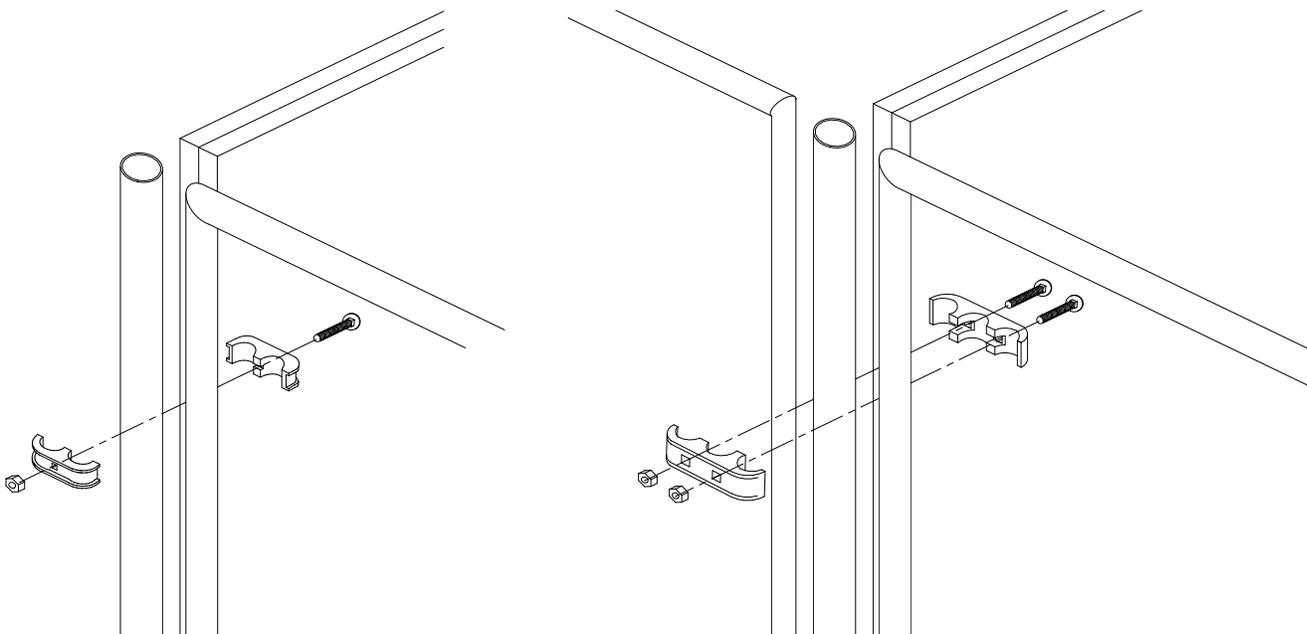
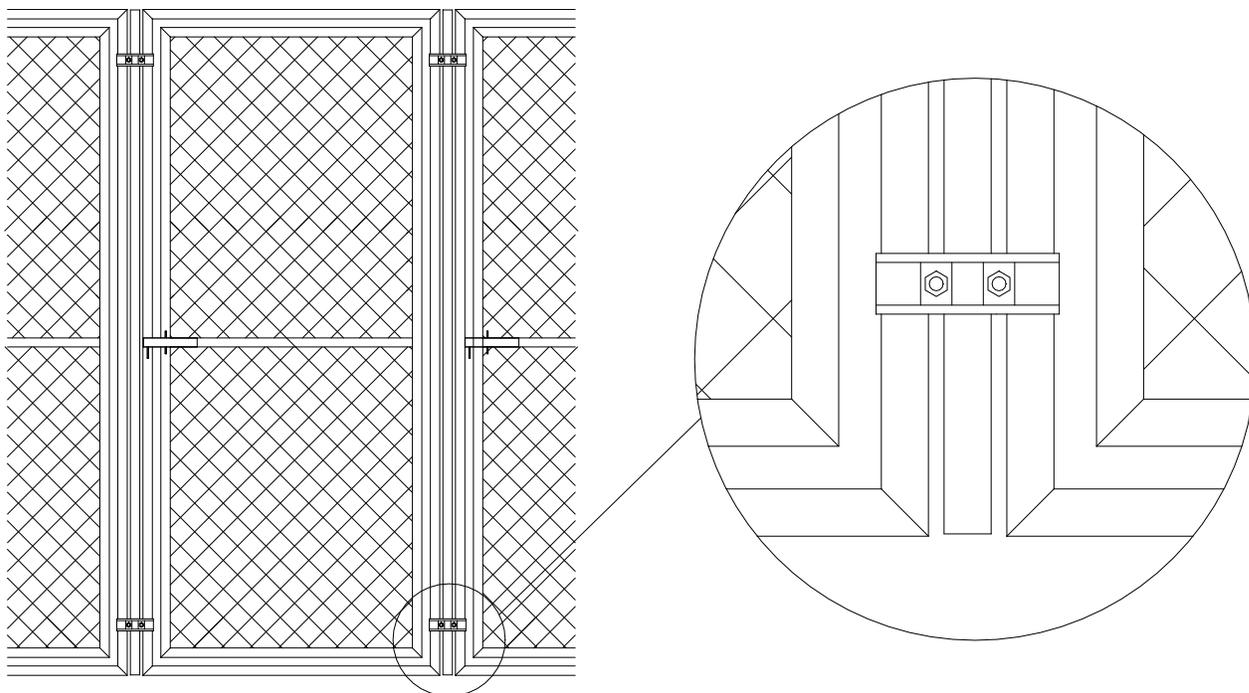

Figure 10
Figure 11
2. Attach the gate / stall front on the front of each run between the filler pipes with two clamps on each side using the 5/16" x 1-1/2" bolts and nuts provided as shown in Figure 10. Note: It takes two halves to make up one clamp. Attach gates / stall fronts to outside division panels using "panel clamps". All other gates / stall fronts will use "triple clamps". **To help insure the safety of the animals the round head of the bolt should be assembled toward the inside of the run.** Note: The triple clamps attach two gates / stall fronts together. Therefore you will have to hang two gates / stall fronts at the same time (see Figure 11).